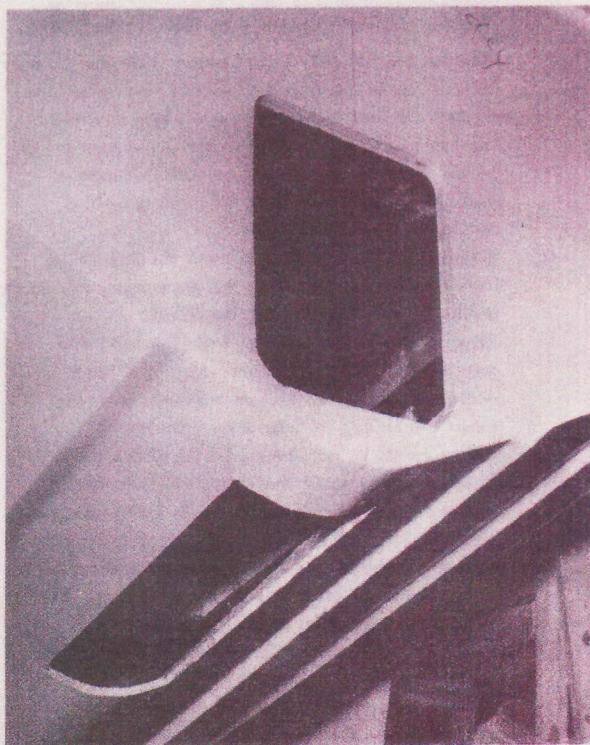

Figure 4
- Cut the openings with a saber saw. The opening thru the boat bottom may be cut from the inside by first drilling four small holes at the corners of the marked cut-out and re-marking it on the inside of the boat (Figure 4).